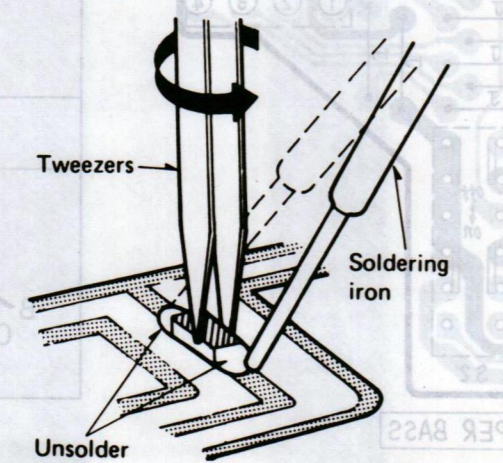

Fig. 12
- Solder circuit board first and then solder chip in the direction of the arrow as shown in Fig. 12.